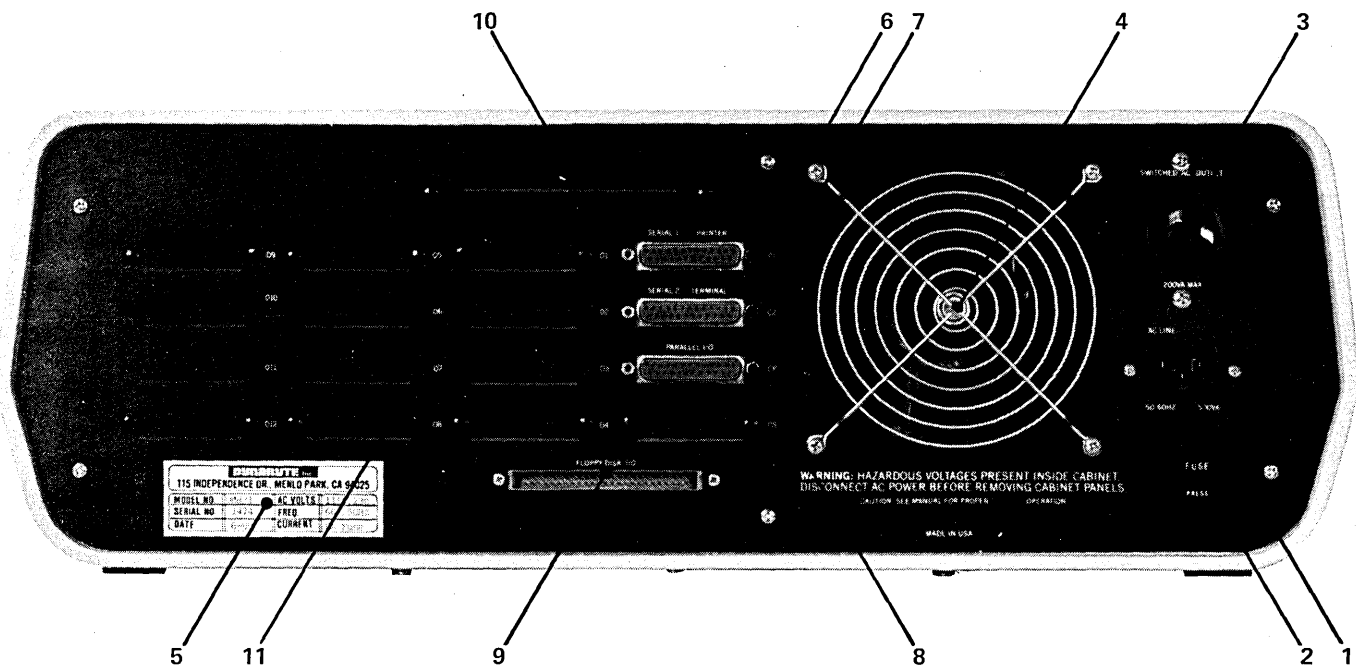

Figure 2-2 — 5505 Computer, Rear Panel - 802470
2.06 Figure 2-2 illustrates the Rear Panel of the 5505 Computer. Table 2-2 tabulates and describes each of the rear panel elements. Ac line and computer Input Output (I/O) connections are through the rear panel. At the right, the ac line is connected through an IEC connector. This permits the 5505 to be connected domestically to 115 Vac, 60 Hz with a National Electrical Manufacturers Association (NEMA) cord set or internationally with a cord set appropriate for that country. A line fuse provides protection for the 5505 and equipment powered from the ac convenience receptacle above.
Each installation will vary depending upon the selection of peripheral devices and the applications programs in use. Three I/O ports are furnished as part of the CPU. These are shown connected to the rear panel illustrated in Figure 2-2. In applications requiring additional ports, a Quadraport or an Octaport may be installed into the S-100 Bus and interconnected to the rear panel. Both the front and rear panels are secured to their respective bezel by 6-32 Kep nuts. Each bezel is secured to the base plate by 6-32 screws. Both panel and bezel may be easily removed for servicing or installation of additional I/O ports in the field.